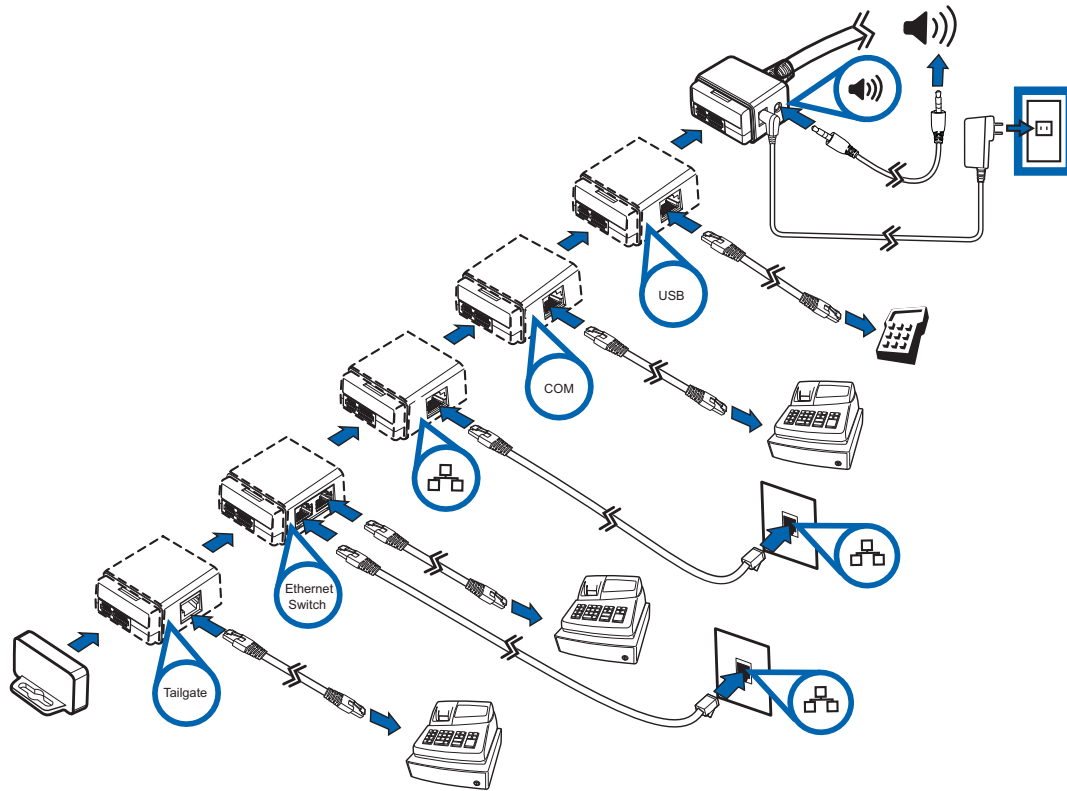

Figure 7 Sample ICE Cube Assembly
- 2 Connect required cable connections or optional devices. Attaching the USB C Cable provides multiple connection options. See Figure 7 for reference.
Each configuration is comprised of a base module, an end cap, and a combination of other modules that support different communications interfaces, see Figure 7 as an example.